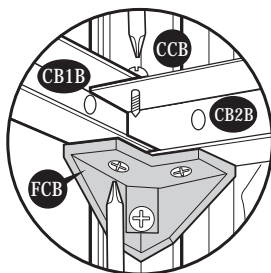

Fig.1: Use (S1) screws. Fix (CB1B) to (FCB) and (CB2B).
23. Attach the center band (CB1B) to door column, corner column and center band (CB2B). See figures 1 and 2.